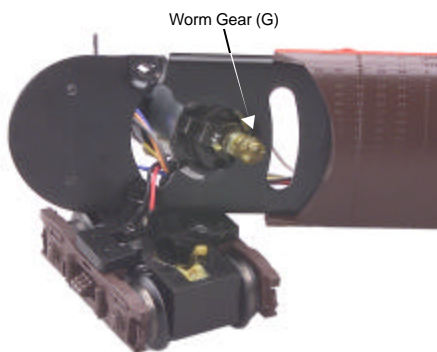

Figure 4a. Grease the Worm Gear
3. Once the motor mount screw has been removed, pull the motor away from the truck block and lightly coat the motor worm gear and bronze drive gear (in the truck block) with grease (see figure 4a).